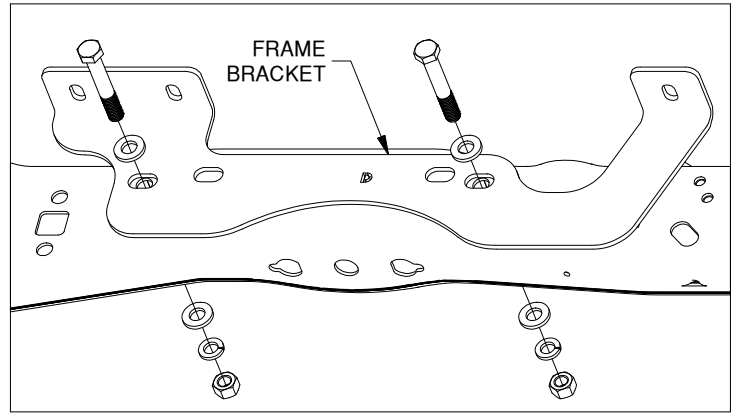

Figure C1: View looking into driver side wheel well.
1. **Install the frame brackets.** Locate the driver and passenger side frame brackets, the large rectangle washer, the frame bracket spacer, four 5/8" x 4" cap screws, seven 5/8" washers, four 5/8" lock washers, and four 5/8" finish nuts. **Depending on the model year of the truck different holes in the brackets will be utilized and the frame bracket spacer will have a different installation orientation,** see Figures C1-C4 to identify the correct holes, hardware, and spacer orientation. On the outside of the frame, pass the flat washers, and large rectangle washer over the cap screws, then place the cap screws through the frame brackets and the frame. Secure the frame brackets on the inside of the frame with 5/8" flat washers, 5/8" lock washers, and 5/8" finish nuts. Do not tighten the mounting hardware at this time.